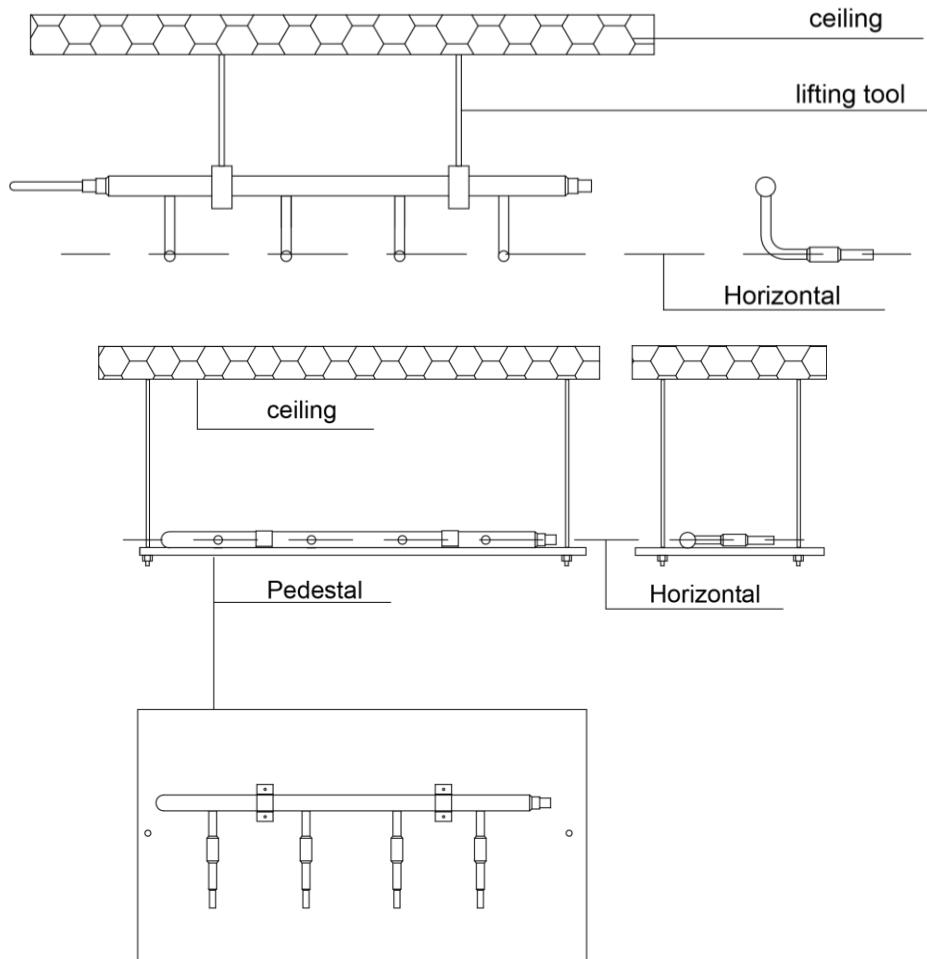

Fig. 4.4.7
- (4) Suspend the header to the ceiling, and be sure to install the T-type manifold so that the outlet pipes are horizontal at the lower side. See Fig.4.4.7.